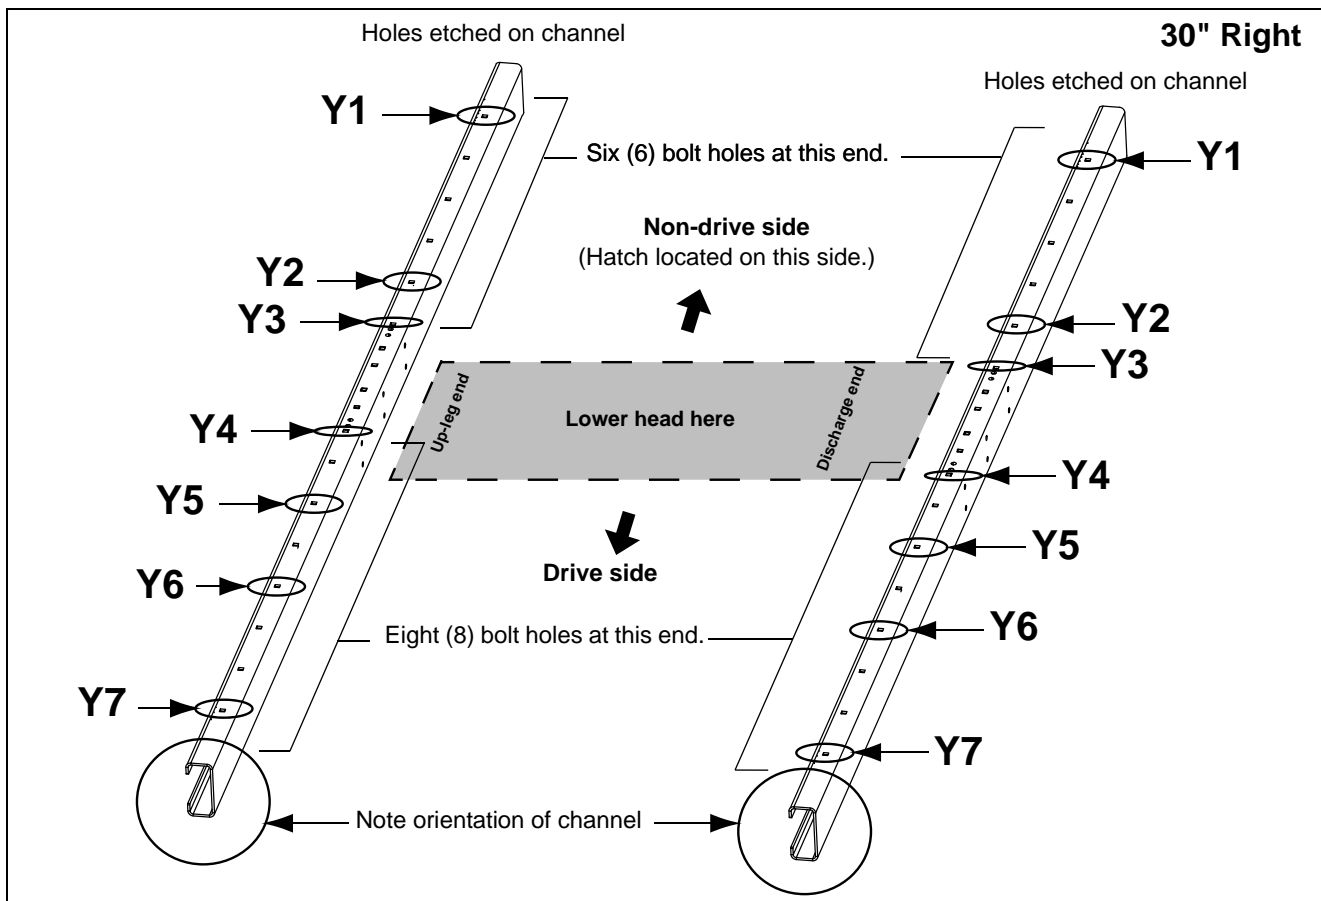
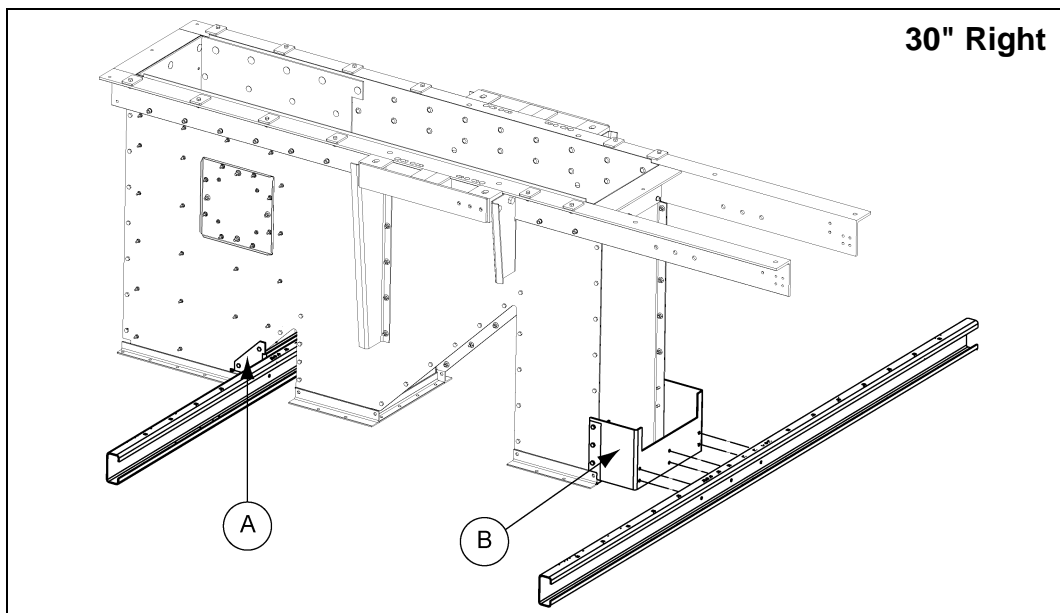

Figure 8B 30" Right Side Drive Channel Position
Figure 8C 30" Right Drive - Cross Deck Support Channels to Lower Head Brackets
(See Figure 8C on Page 49.)
3. Attach cross deck support channels (HP36DSCX) to the top-most set of holes of the lower head brackets (HSP36130) using 3/8" x 1" bolts and nuts and properly. (See Figure 8C on Page 49.)
***NOTE:** The channels *MUST* be oriented as shown in Figure 8B and Figure 8C on Page 49 in order for the decking and subsequent assembly to be done correctly.